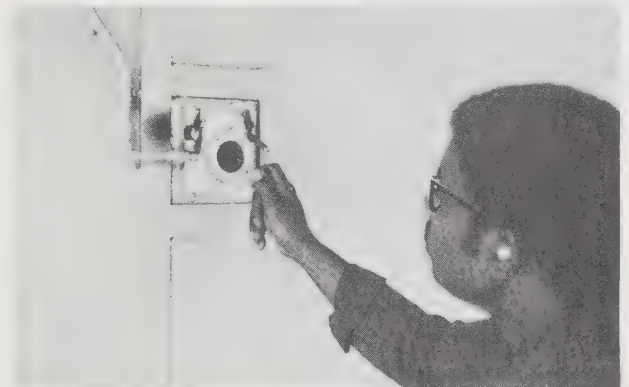

Figure 11-5. The boiler operator inspects the fire in a furnace for combustion quality.
14. Visually inspect the fire in the furnace periodically. This inspection can provide an indication of the quality of combustion. See Figure 11-5. **WARNING: Always wear proper eye protection to prevent possible injury from infrared and ultraviolet rays emitted from the fire in the furnace.**